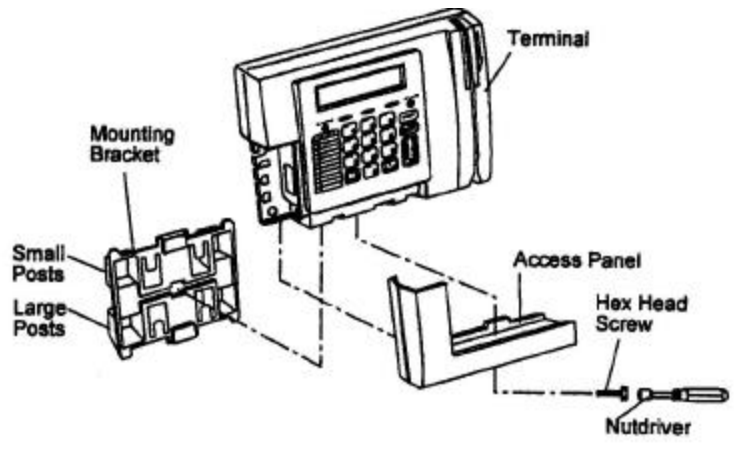

Figure 9: Access Panel & Mounting Bracket Removal
### 1. Removing the access panel and mounting bracket from the terminal. Refer to Figure 9.
- (a) Remove the mounting bracket as explained in Figure 9.